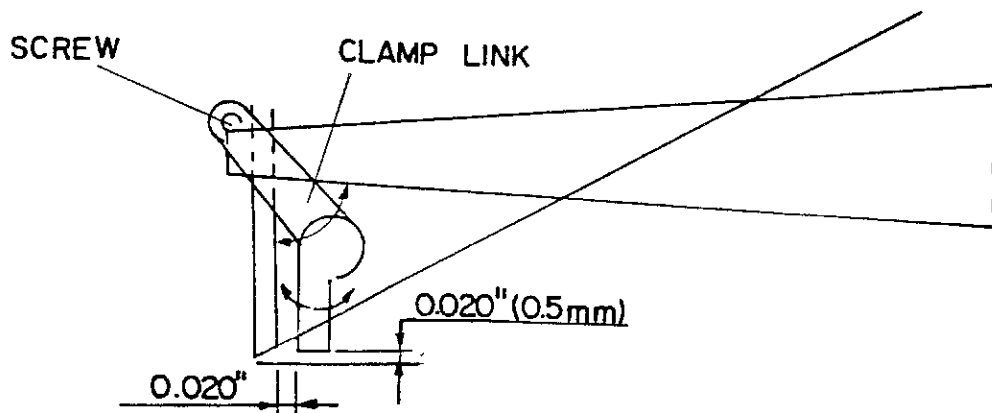

Figure 9-8 Wire Clamp Position
- Step 4 Release the screw that secures the Clamp Link to the Tear and Feed Bracket pivot (see Figure 9-8). Adjust the position of the Clamp until the Clamp is 0.02" (0.5mm) from the Wedge and 0.02" (0.5mm) above the Wedge tip. This adjustment can be done by turning the Wire Clamp and Clamp Link until the required distances from the Wedge are achieved.